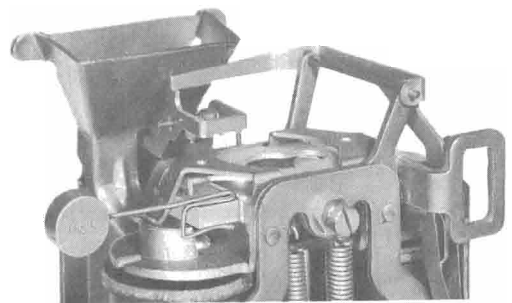

Fig. 63—Bias Margin Test
- (1) To test in collect direction, place a 146A gauge on left side of armature (see Fig. 63).
- (2) Connect hand test set across line terminals.
- (3) Trip coin trigger (see 6.117).
- (4) Obtain collect current by any available local arrangement. Relay should operate to collect (lifting gauge) and trigger should restore. Make test three times (see 6.117).
- (5) To test in refund direction, place 146A gauge on right side of armature.
- (6) Trip coin trigger.
- (7) Obtain refund current. Relay should operate to refund (lifting gauge) and trigger should restore. Make test three times.
- (8) If relay fails to operate in the correct direction or if trigger fails to restore, check for and remove magnetic particles or replace relay.